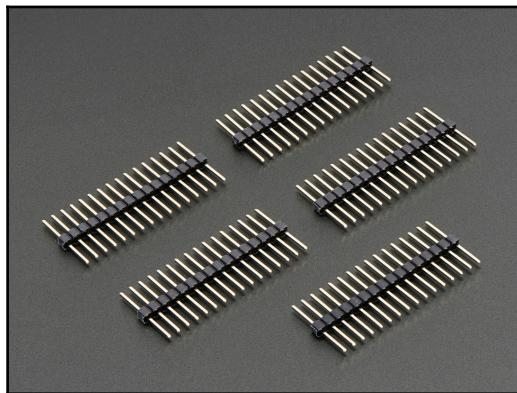

Figure 5.5: Extra-long break-away 0.1" 16-pin strip male header (five pieces). Image courtesy of Adafruit Industries (<https://www.adafruit.com/>)
4. Take a stick of extra-long male header and break off five pieces, carefully pulling or cutting out the middle one (*Figure 5.5*):